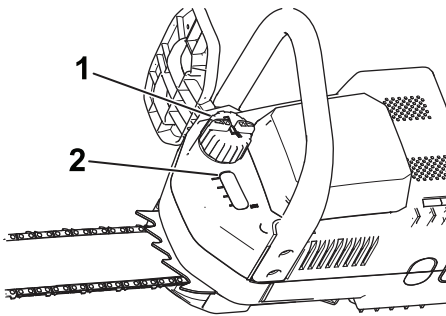

Figure 2
2. Clean the area around the oil cap (Figure 2).
3. Remove the cap and pour oil into the chain saw until the oil fills the window (Figure 2).